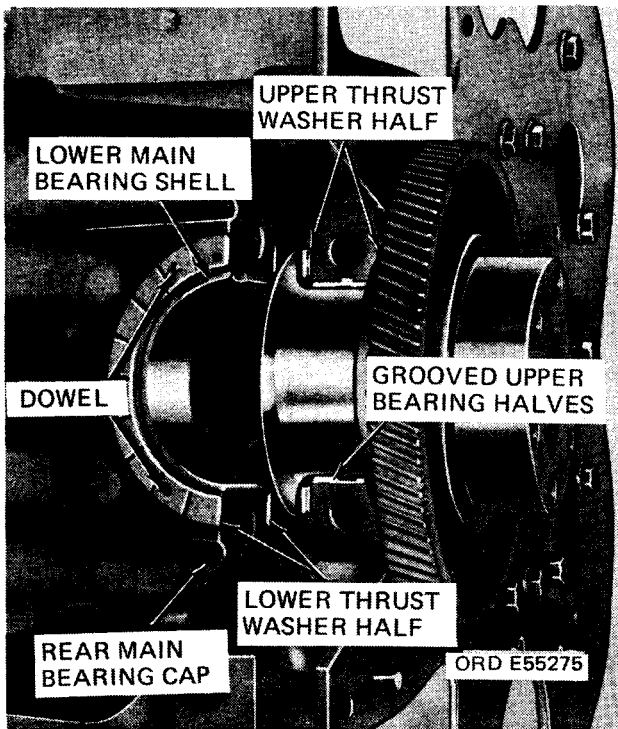

Figure 3-131. Rear main bearing cap and bearing, removal and installation.
(2) Install the upper grooved bearing shells in the block. If the old bearing shells are to be used again, install them in the same locations from which they were removed.
(3) Apply clean engine oil to all crankshaft journals and install the crankshaft in place so that the timing marks on the crankshaft timing gear and the idler gear match.
(4) Install the upper halves of the crankshaft thrust washers on each side of the rear main bearing support and the doveled lower halves on each side of the rear main bearing cap. The grooved side of the thrust washers must face toward the crankshaft thrust surfaces (fig. 3-131).
(3) Install the upper thrust washers (fig. 3-131).
(4) Position the lower bearing shell and the lower thrust washer halves (on rear bearing cap only) in bearing caps (fig. 3-131) and install over crankshaft rear bearing journal.
(5) Position lower bearing shells in remaining bearing caps and position on crankshaft journals.
(6) Secure bearing caps as instructed in (b) (6) and (7) above.